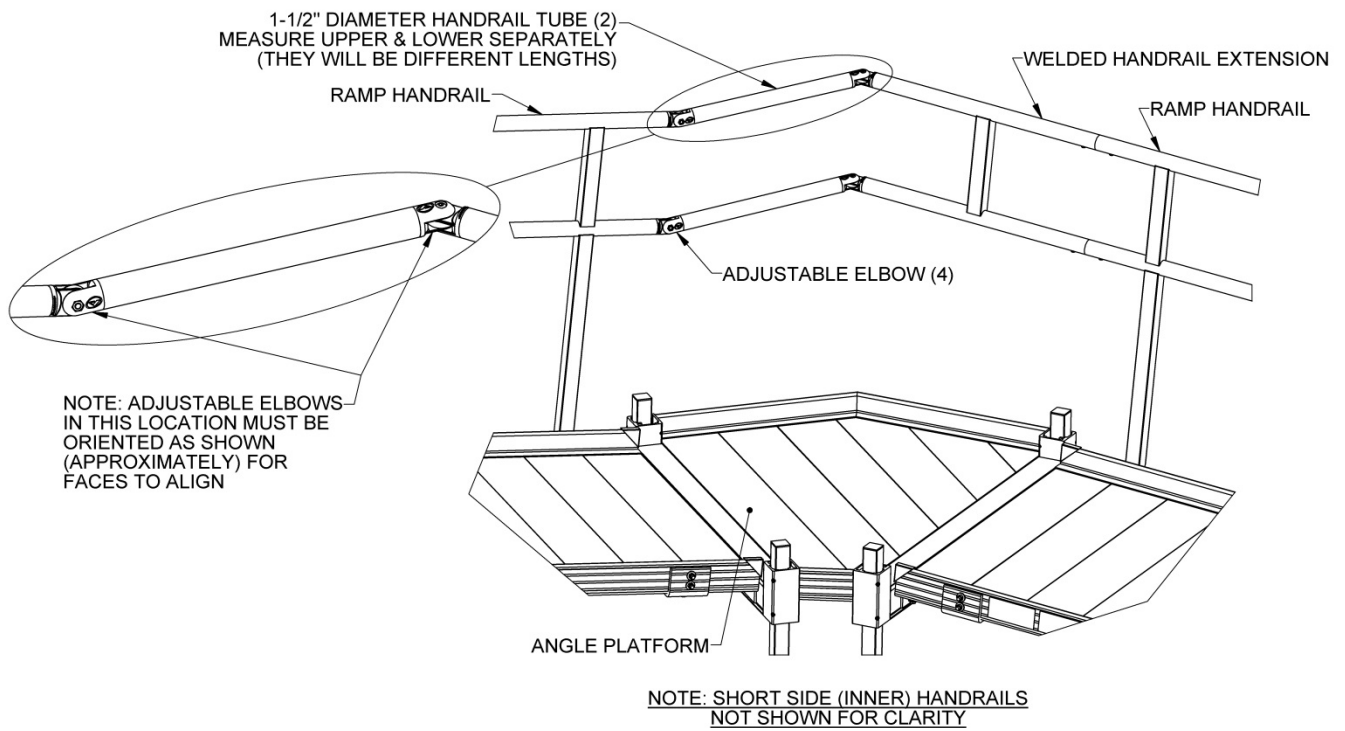

FIG. 7
- 4.9. After the welded handrail extension is installed, install and align the adjustable elbows and measure and cut the 1-1/2” diameter handrail tubes connecting the ramp handrail to the handrail extension as described in Section 4, Connecting Handrails with Adjustable Elbows. FIG. 7 shows the completed connection.